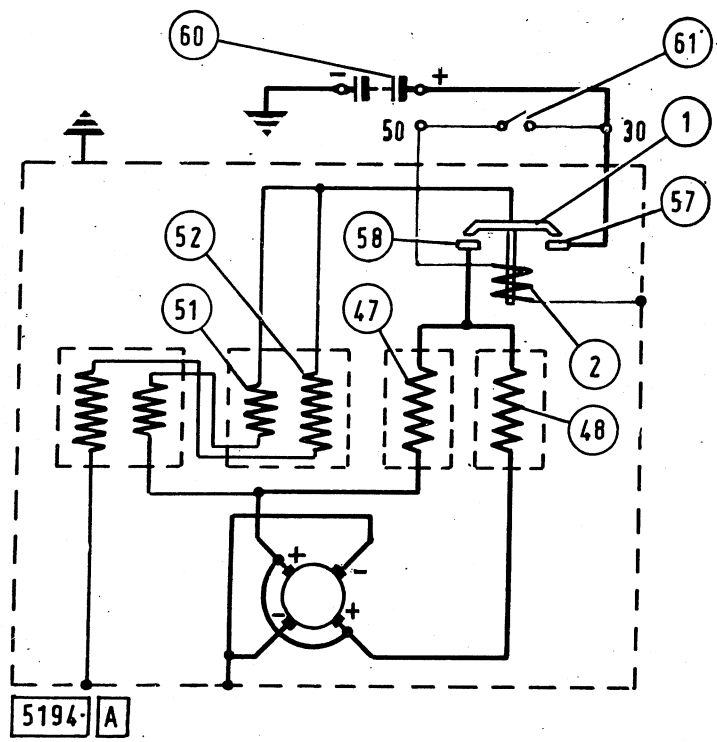

Fig. 12 - Wiring diagram of MARELLI starting motors.
- four windings, two of which consist of the auxiliary winding coils, two coils each, (51 in series and 52 in parallel, Fig. 12.) and the remaining two by a coil each of the main field winding (47 and 48);